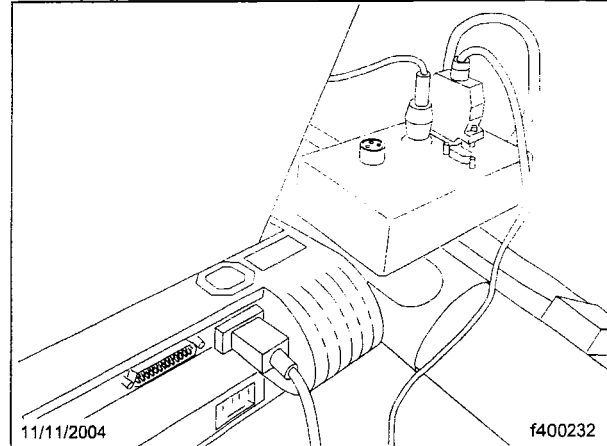

Fig. 4, Adapter II Connected to the Star Diagnosis
- 2.1 Connect the Adapter II to the Star Diagnosis. See **Fig. 4**.